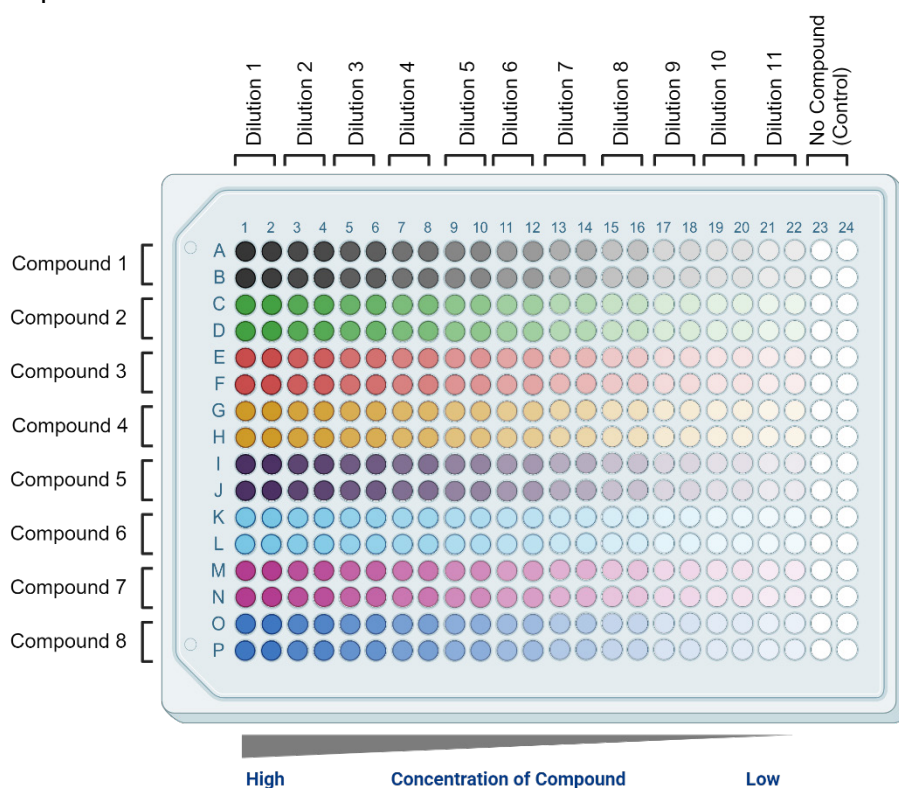

Figure 6. Compound Assay Plate Map - Agonist
2. Using a 12-channel pipette, add 5 µL of each 5X compound serial dilution in quadruplicate into the designated compound rows of the assay plate (e.g., Compound 1 with Dilution 1 in rows A and B, Columns 1 and 2; Compound 2 with Dilution 1 in rows C and D, Columns 1 and 2). Repeat for the remaining compounds as indicated in the Compound Assay Plate Map - Agonist (Figure 6).